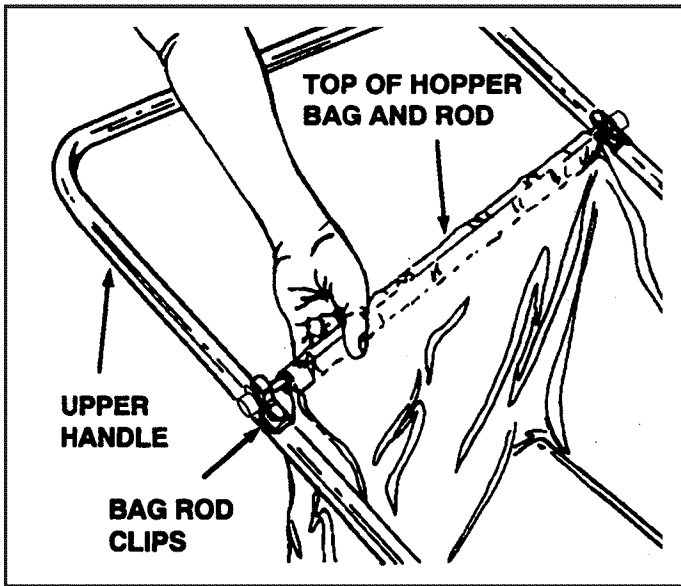

FIGURE 7
9. Place the upper hopper bag and bag rod into the bag rod clips on the hopper handle. See figure 7.